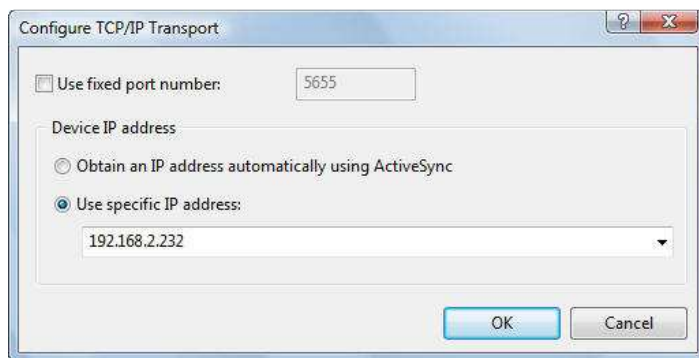

Fig. N11 - Configure TCP/IP Transport / Set device IP Address
- Select **Use specific IP address** and enter IP address for the target device, as shown in Figure N11.